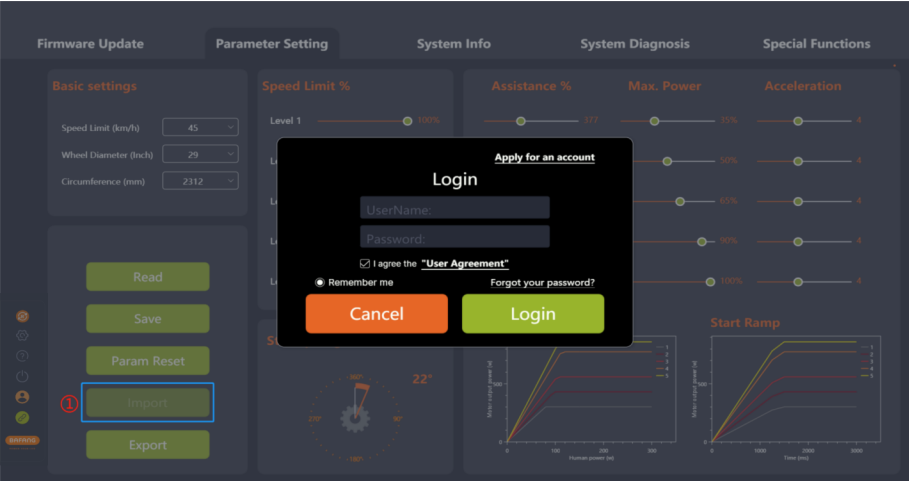

Fig 5-17 Import
1. If you want to import the previously generated configuration file (XML format) to the controller, click "Import". If you are not logged in, the "Login" interface will pop up, prompting you to log in (Figure 5-17).